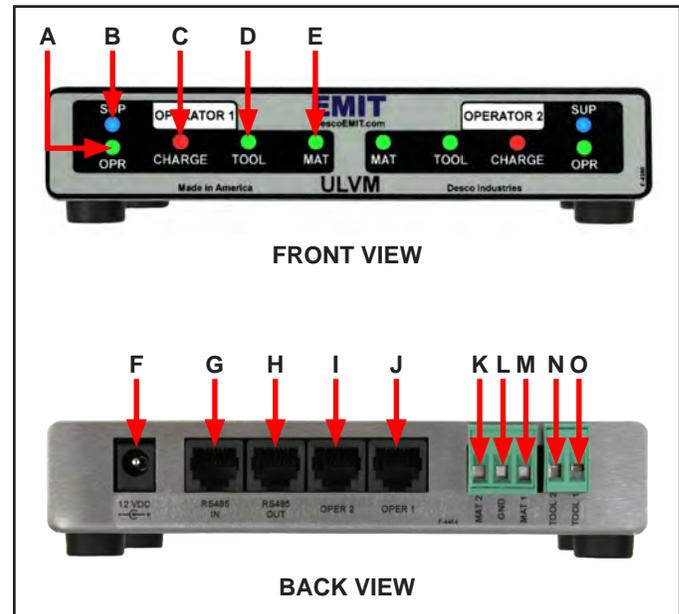

Figure 2. Ultra Low Voltage Monitor features and components.
### ULTRA LOW VOLTAGE MONITOR (See Figure 2)
5. Attach the tinned wire ends of the mat cords to their appropriate screw terminal block connection located on the back of the unit (see Figures 2 and 4). The white cord is for OPERATOR 1 and the black cord is for OPERATOR 2.